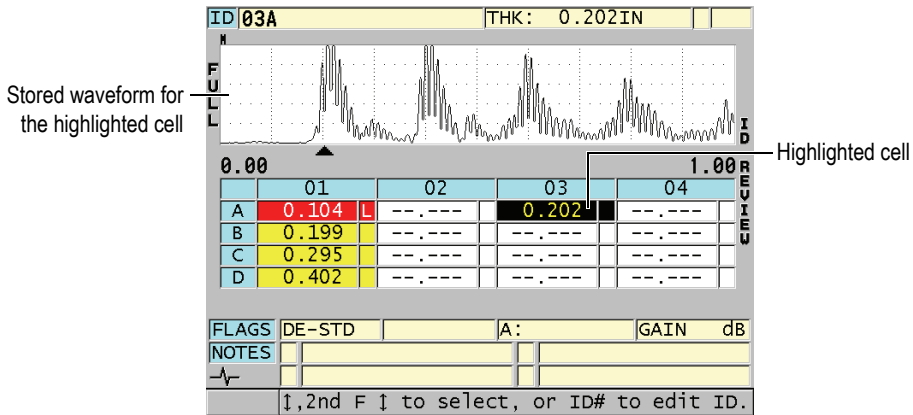

Figure 10-13 The highlighted DB grid cell in the ID review screen
3. In the ID review screen (see Figure 10-13 on page 149):